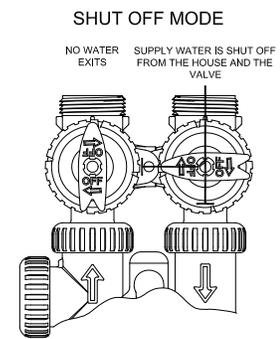

figure 4
4. Shut Off Position: The inlet handle points to the center of the bypass valve and the outlet handle points in the direction of flow, the water is shut off to the plumbing system. If water is available on the outlet side of the conditioner it is an indication of water bypass around the system (i.e. a plumbing connection somewhere in the building bypasses the system). (see figure 4)